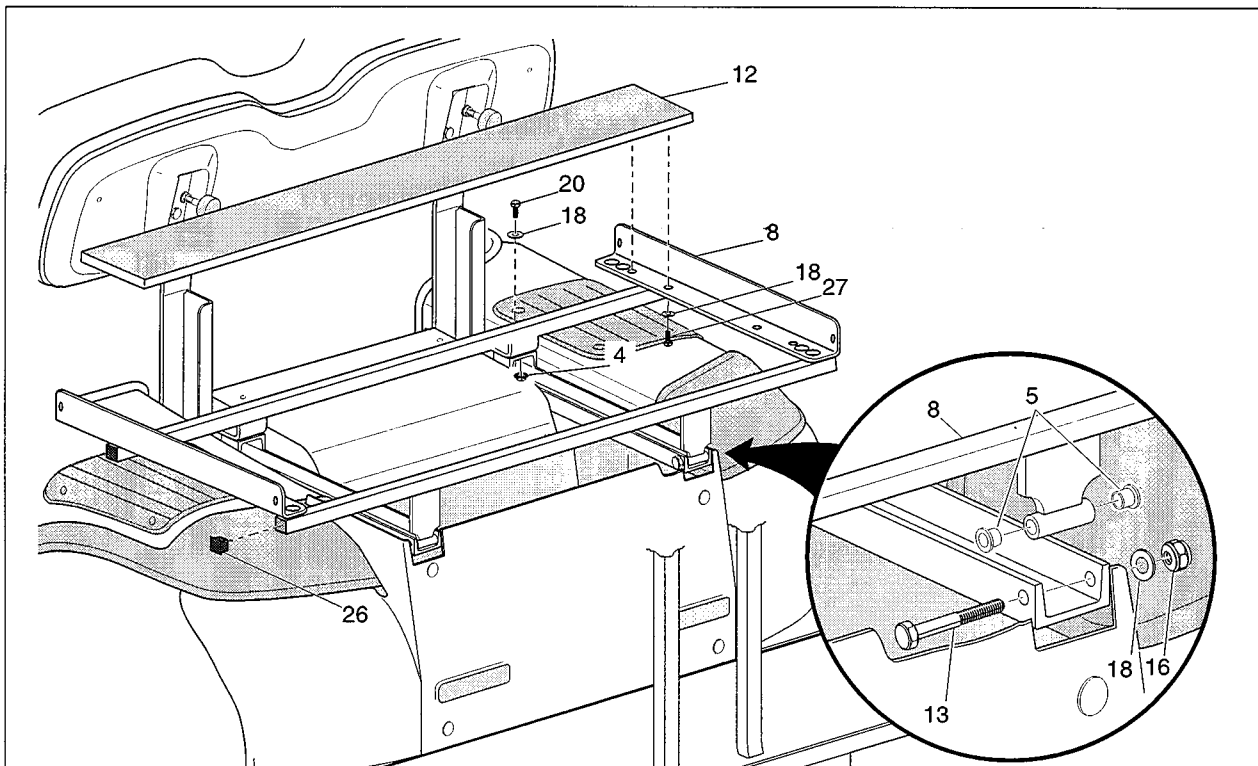
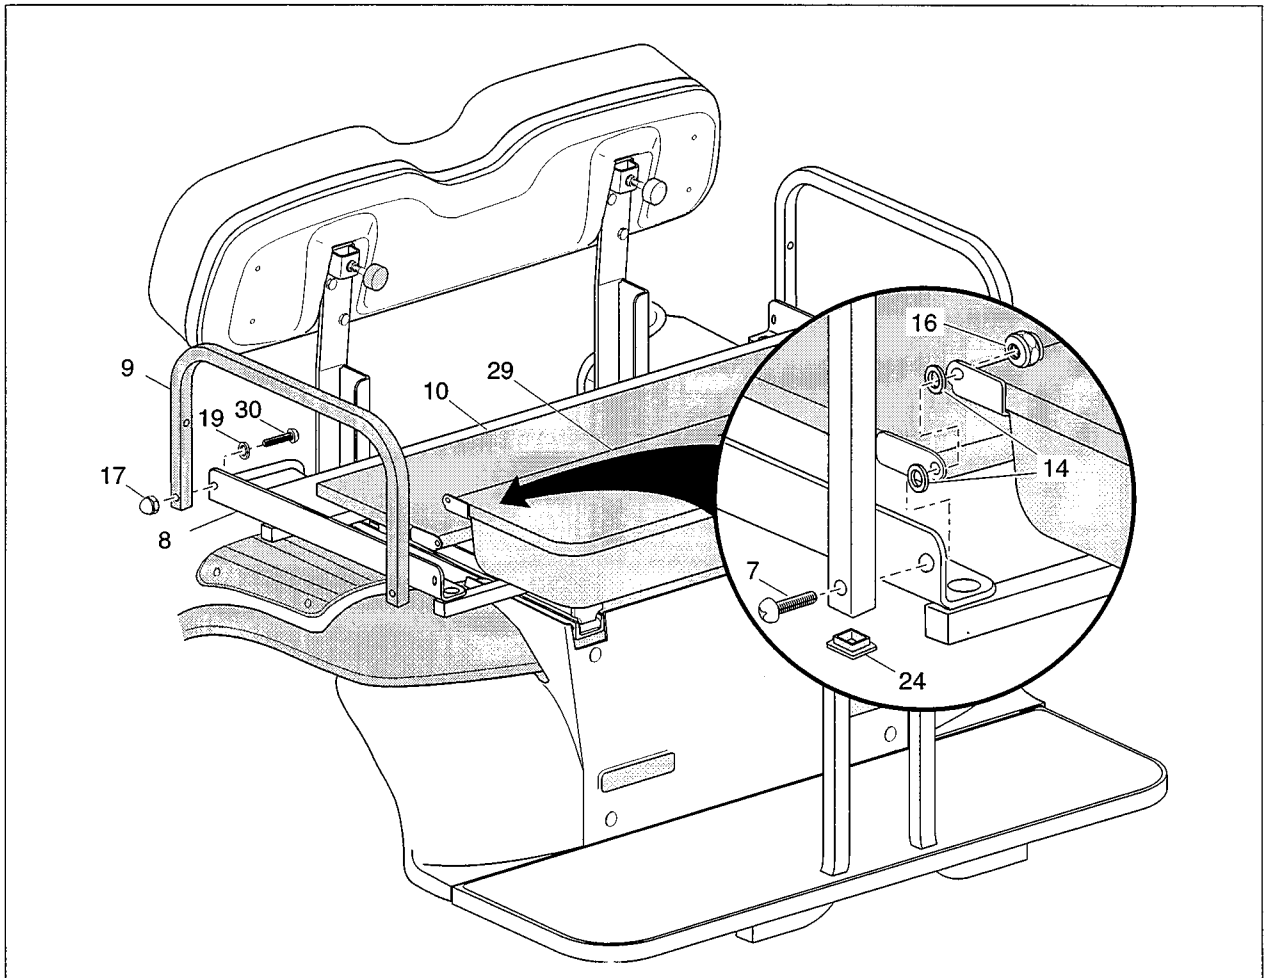

Fig. 3
Fig. 4
C. INSTALLING SUPPORT FRAME (Refer to Fig. 3)
1. Insert the nylon bushings (item 5) into the pivot brackets in the support frame (item 8) (4 places).
3. Insert the bolt (item 13) through the pivot from the center of vehicle (2 places) and secure with washer (item 18) and nut (item 34).
4. Secure front of support frame to seat back support using bolt (item 20), washer (item 18) and nut (item 4).
5. Insert end plug (item 26) in each end of both support frame cross tubes.
D. INSTALLING FIXED BED (Refer to Fig. 3)
1. Attach fixed bed (item 12) to support frame (item 8) using bolt (item 27) and washer (item 18). (Two places on each end of front bed. Tighten to 5 - 7 ft. lbs. torque.
E. INSTALLING HANDRAIL (Refer to Fig. 4)
1. Insert end plug (item 24) in each end of handrail (item 9).
2. Attach handrail at forward end of support frame (item 8) using bolt (item 30), lock washer (item 19) and acorn nut (item 17). Do not tighten hardware at this time.
F. INSTALLING LOAD BED AND SEAT BOTTOM (Refer to Fig. 4)
1. Position load bed (item 10) in support frame as shown.
2. Position seat bottom (item 29) in support frame as shown.
3. Insert teflon washer (item 14) between support frame and load bed and again between load bed and seat bottom as shown.
4. Secure all components by inserting bolt (item 7) through handrail, support frame, washer, bed assembly, washer and seat bottom and secure with lock nut (item 16). Tighten all handrail hardware to 12 - 14 ft. lbs. torque.